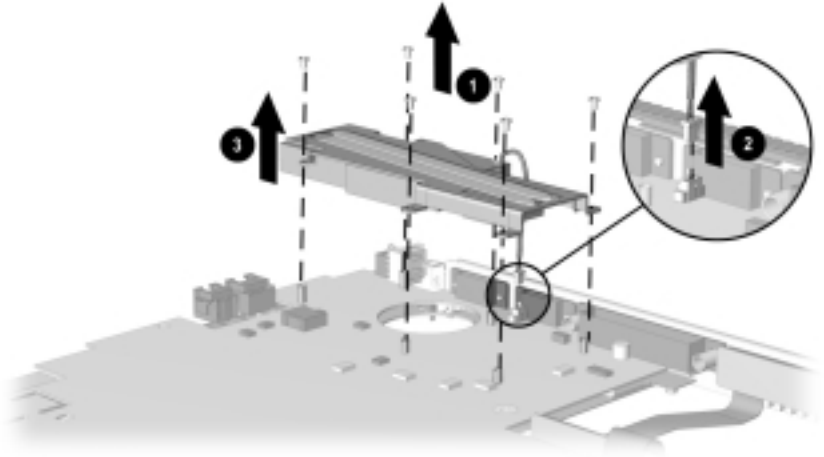

Figure 5-27. Removing the Fan and Heat Sink
3. Remove the six screws that secure the fan and heat sink to the system board ❶ (Figure 5-27).
4. Disconnect the fan cable from the system board ❷.
5. Remove the fan and heat sink from the system board ❸.